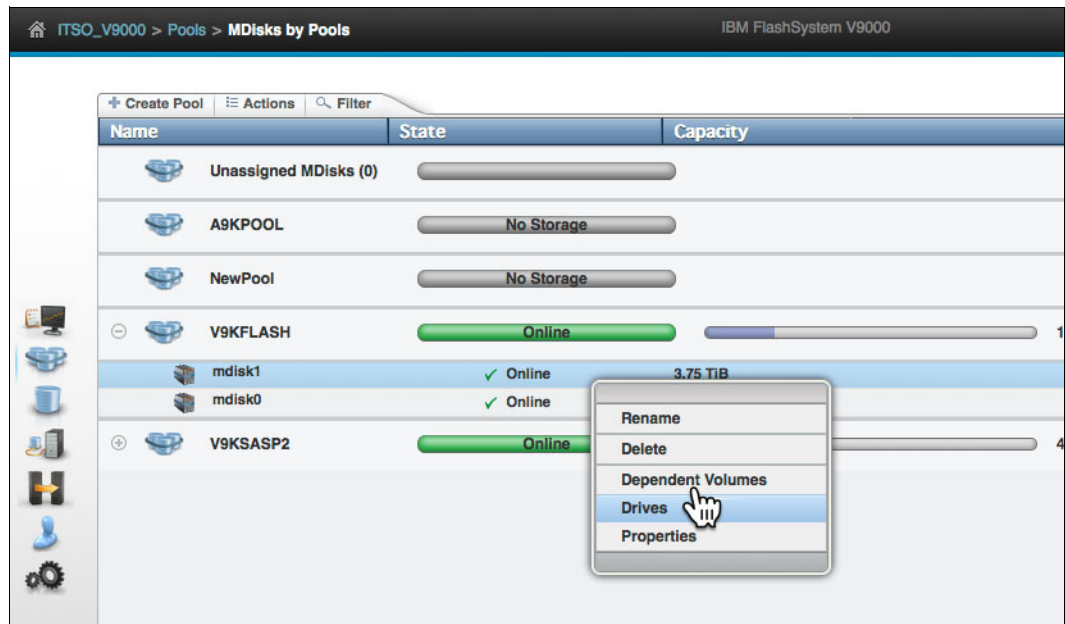

Figure 7-27 Select Drives
2. Right-click an MDisk and select **Drives** (Figure 7-27).